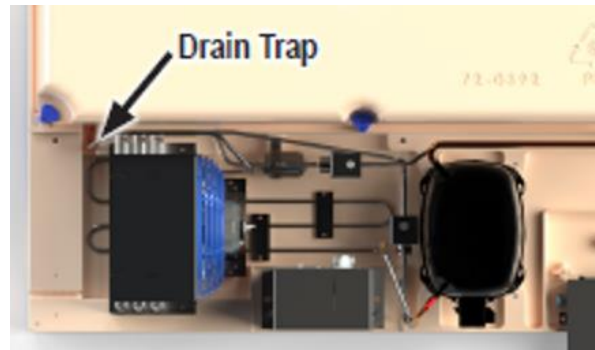

Figure 4: Trap Location
9. Prime the trap on the PRU with 2 fluid ounces of water (See Figure 4)